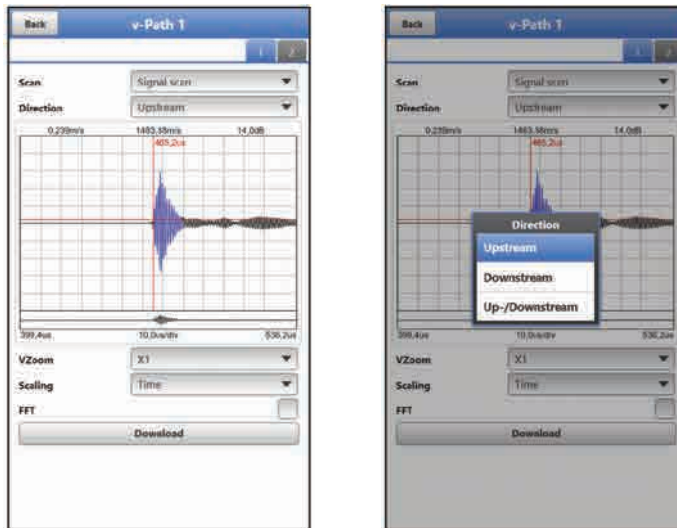

Fig. 49-2 Signal scan
- **>Signal Scan<** (Fig. 49-2)